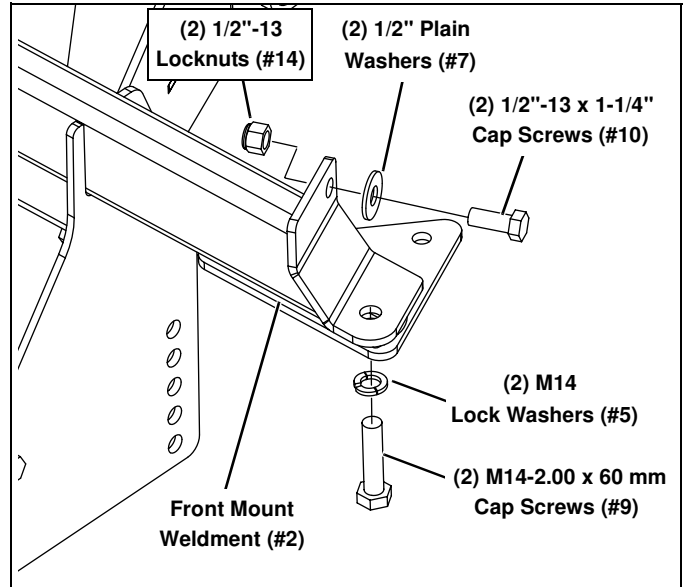

Figure 9
10. Attach the Front Mount Weldment (#2) to the frame using (2) M14 Lock Washers (#5), (2) M14-2.00 x 60 mm Cap Screws (#9), (2) 1/2" Plain Washers (#7), (2) 1/2"-13 x 1-1/4" Cap Screws (#10), and (2) 1/2"-13 Locknuts (#14). (See Figure 9.) Put the rear tow hook bolts (from step 4) back into place, but through the remaining hole on each side of the Front Mount Weldment (#2). Push the bolt up through the hole and the frame while turning it, there is a rubber bushing you'll have to push through before the bolt begins to grab any threads.